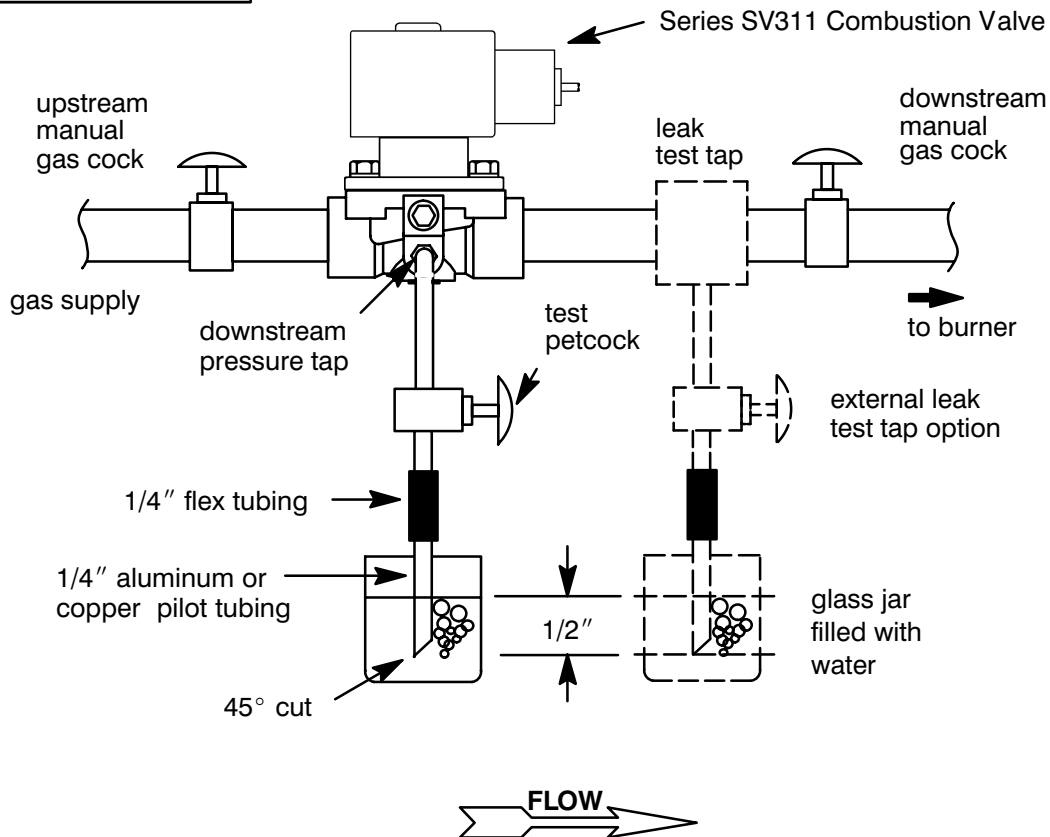

Figure 2. Testing for internal seat leakage.
(Refer to Figure 2)
4. Shut off the upstream manual gas cock and de-energize valve. Remove the plug from the leak test tap or downstream pressure tap in the valve body. Connect leak test equipment with the test petcock in the closed position see Figure 2.